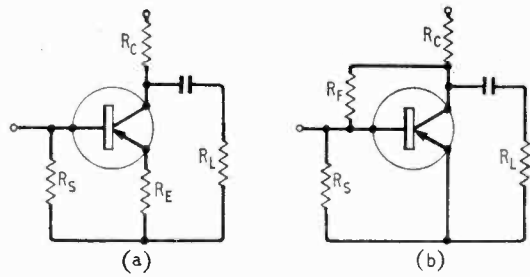

Fig. 26. H.-f. compensation by resistive negative feedback using (a) unbypassed emitter resistor and (b) collector-base feedback resistor.
**Negative Feedback H.-f. Compensation:**—Simple negative feedback can be used in two ways as shown in Fig. 26. In the first case, Fig. 26(a), the unbypassed emitter resistor  $R_E$ , lowers the mid-band gain and pushes out the bandwidth limit, because the gain-bandwidth product is not much affected. It can be shown that the method is effective for  $R_E$  in the range:
A second method of applying simple negative feedback for gain-bandwidth trading is shown in Fig. 26(b) where feedback is from collector to base via the resistor  $R_F$ . It can be shown that this method is effective for  $R_F$  in the range
The two simple negative feedback circuits of Fig. 26, can be modified for high-frequency peaking by introducing frequency conscious elements in the feedback path as shown in Fig. 27. Shunting of the emitter resistor by a small capacitor  $C_E$  as in Fig. 27(a) reduces the feedback at high frequency and thus increases the amplifier high-frequency gain. The value of  $C_E$  is often selected initially so that its reactance at  $f_{hfs}$  is equal to  $R_E$ , i.e.
The simple collector-base feedback of Fig. 26(b) can also be modified for high-frequency peaking by padding out the feedback resistor  $R_F$  with a series inductor or  $L_F$  as shown in Fig. 27(b). This inductor tends to reduce the effect of the feedback resistor  $R_F$  at high frequencies and thus extends the bandwidth. It can be shown that an approximate value for this inductor is: